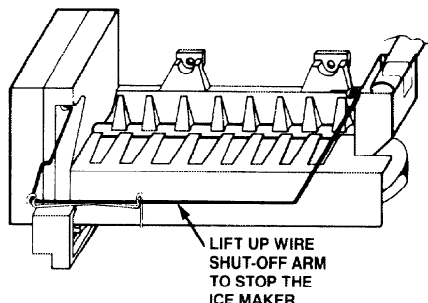

FIGURE 34
2. **Stopping Ice Production:** To stop ice production or to remove the ice bin: take hold of wire arm near black housing, and lift up. There will be an audible "click" when ice maker shuts off. The wire arm stays in the upper position. See Figure 34. As long as the arm is in this position, ice will not be made. The unit will continue to dispense cubes from the ice bin until all have been used.